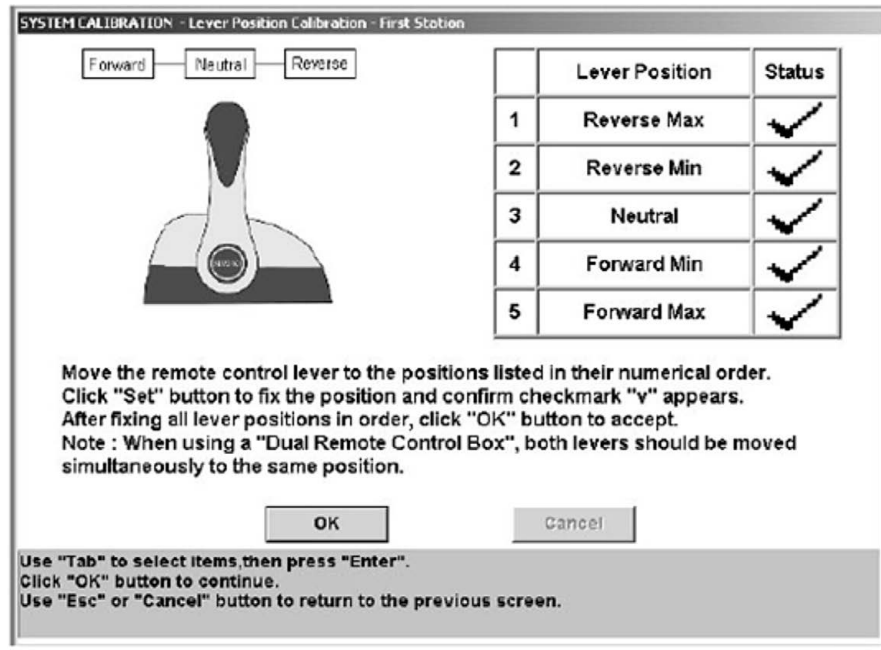

Figure 6-16. Save calibrated values.
6. When all lever positions have been set, and the screen shows check marks next to all of them (see Figure 6-16), return the control levers to the neutral position and click **OK** to save the calibration.